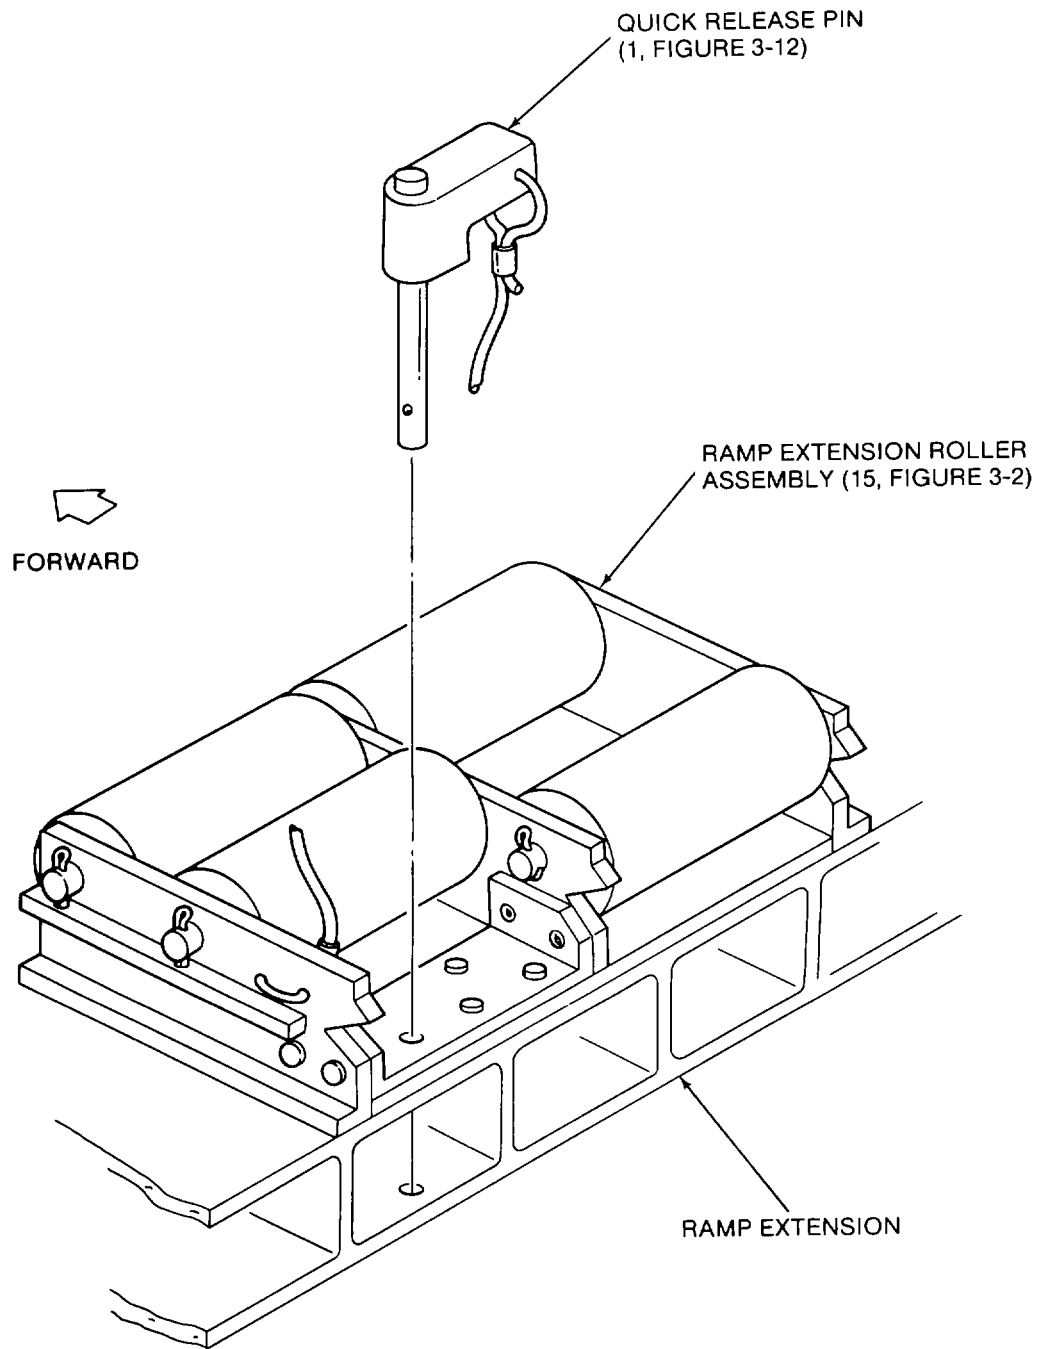

Figure 2-20. Installation of Ramp Extension Roller Assembly
(1) Position a ramp extension roller assembly (15) on the left ramp extension. Make sure that six quick-release pins (1, Figure 3-12) engage the holes drilled in paragraph 2-7 as shown in Figure 2-20.